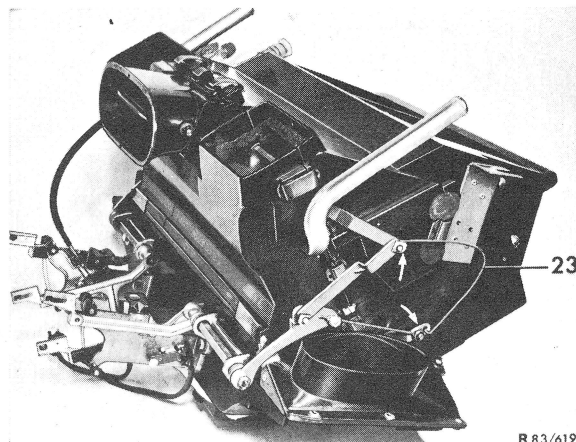

Fig. 7
**33** Set both outer operating levers upwards and insert the assembly aid (23) into levers of flap actuation as shown in Fig. 7.